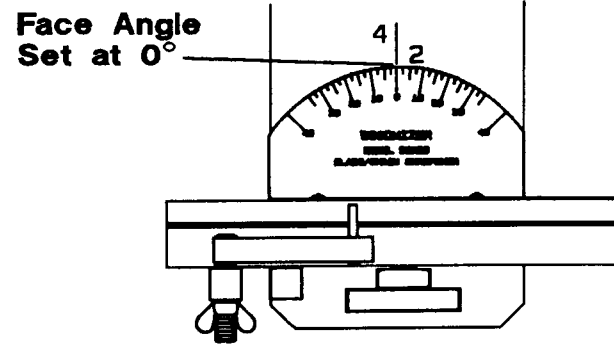

FIG 2-9
1. Set the tooth face angle scale at '0' degrees (See Figure 2-9). The zero on the scale should line up with the '0' line that has been punched into the base plate. As the wheel wears, the blade clamping fixture may be moved away from the operator to keep the blade directly under the center of the grinding wheel (the other marks are for grinding Micro or Super [Round File] Chisel type saw chain). To adjust the face angle or move the blade fixture in or out to compensate for the size of the grinding wheel, simply loosen the bottom hand knob, adjust as desired, and retighten the knob.